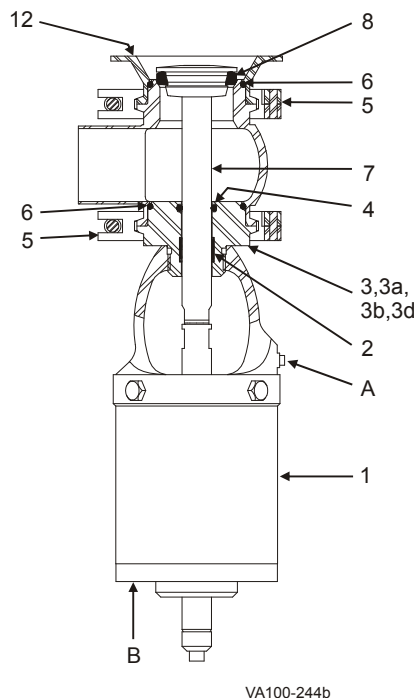

Figure 18: W64/W84 Tank Outlet Valve
3. Remove the body/tank flange clamp (Figure 18, item 5) and remove the valve from the tank flange.
4. Using 5/8-inch wrench flats on the stem, unscrew and remove the valve stem (item 7).
5. Replace the seat ring (item 8) as needed. See "Seat Replacement" on page 35.
6. Remove the lower body o-ring (item 6); replace as needed.
7. Remove the upper body clamp (item 5) and upper body from the adapter (item 3).
8. Unscrew the adapter (item 3) from the yoke.
9. Remove the upper body o-ring (item 6) and stem o-ring (item 4); replace as needed.
10. Inspect and replace the PTFE bearing (item 2) as needed.
5. Using 5/8-inch wrench flats on the stem, unscrew and remove the valve stem (item 7).